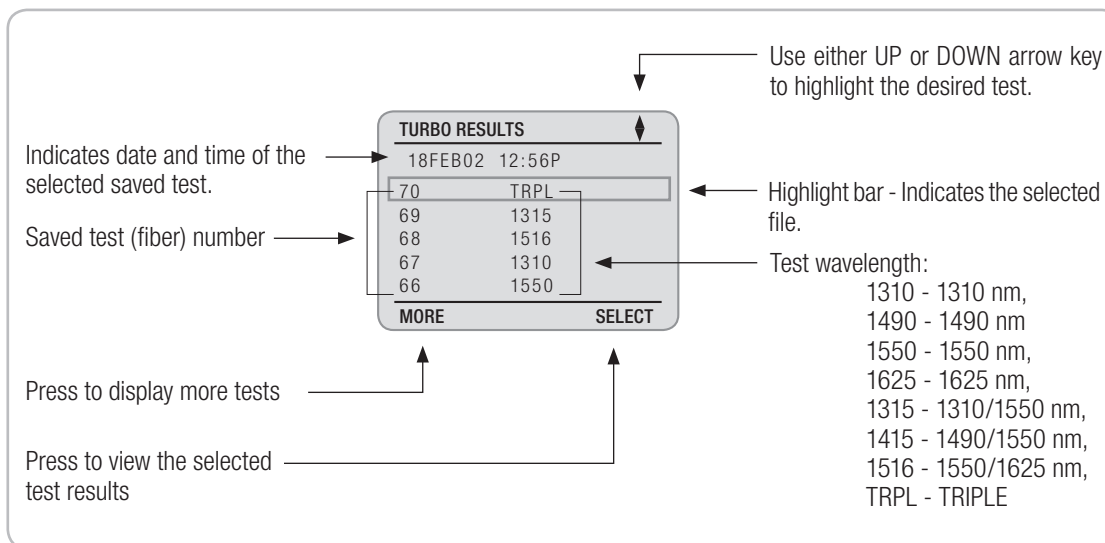

Figure 4-7. Reviewing Saved Test Results.
- 4 Press the [SELECT] soft key to access the [TURBO RESULTS] screen (refer to Figure 4-7).